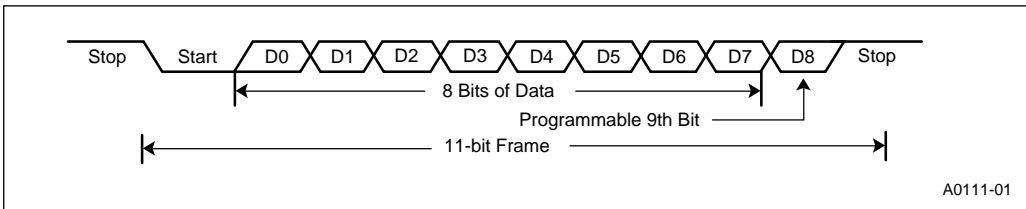

Figure 8-5. Serial Port Frames in Mode 2 and 3
Mode 2 is the asynchronous, ninth-bit recognition mode. Figure 8-5 shows the data frame used in this mode. It consists of a start bit (0), nine data bits (LSB first), and a stop bit (1). During transmissions, write data bits 0–7 to the transmit buffer (SBUF_TX) and write data bit 8 (the ninth data bit) to the transmit bit 8 (TB8) bit in the serial port control (SP_CON) register. The SIO clears the TB8 bit after every transmission, so you must set it (if desired) before each write to SBUF_TX. During receptions, the receive buffer (SBUF_RX) contains data bits 0–7, and bit 7 in the serial port status (SP_STATUS) register contains data bit 8 (the ninth data bit received).
Mode 3 is the asynchronous, ninth-bit mode with optional parity. The data frame for this mode is identical to that of mode 2 (Figure 8-5 on page 8-9). Mode 3 differs from mode 2 during transmissions in that parity can be enabled, in which case the ninth bit becomes the parity bit. When parity is disabled, data bits 0–7 are written to the serial port transmit buffer (SBUF_TX), and the ninth data bit is written to SP_CON.4 (TB8). In mode 3, a reception always sets the RI interrupt pending bit, regardless of the state of the ninth bit. If parity is disabled, the SP_STATUS register bit 7 (RB8) contains the ninth data bit received. If parity is enabled, then the SP_STATUS register bit 7 becomes the received parity error (RPE) flag.